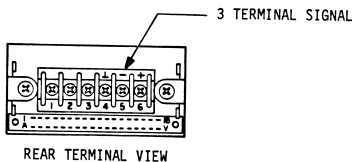

FIGURE 1 SIGNAL INPUT CONNECTIONS
10.0 SIGNAL INPUT CONNECTIONS (TB1) (SEE FIGURE 1)